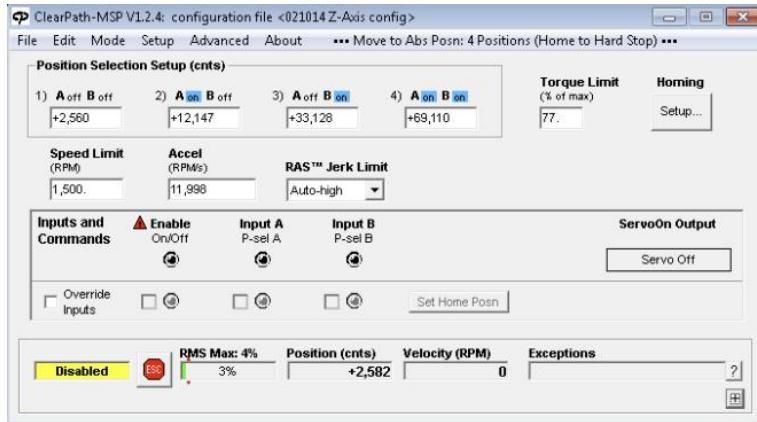

Figure 10 Clear Path MSP Software
7. Once configuration is loaded, Z height threshold will automatic update as shown in Figure 10.